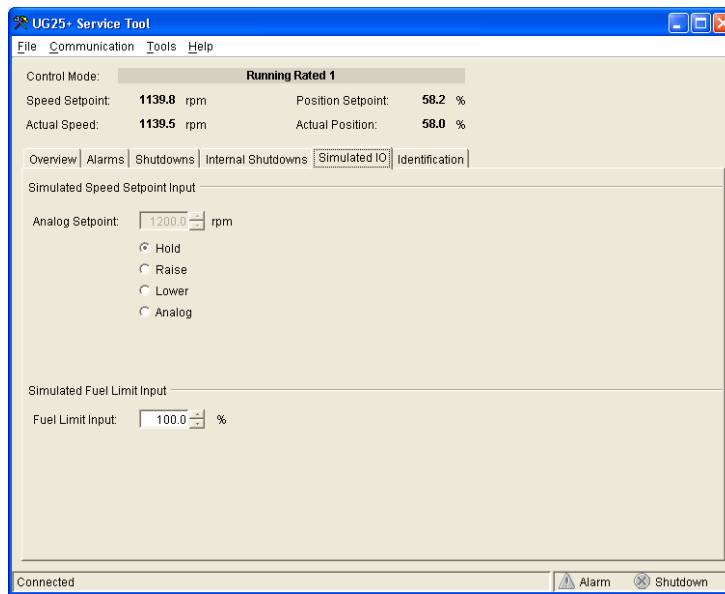

Figure 5-7. Service Tool – Simulated I/O Tab
- Simulated I/O (see Figure 5-7)
While communicating to the service tool, Speed Set Point commands (analog, raise, lower) and Load Limit inputs (Aux 3 and Aux 4) are not functional since these input pins are used for both Input and for serial communications. The Simulated I/O screen (figure 5-7) is provided to facilitate operational testing while connected to the Service Tool.